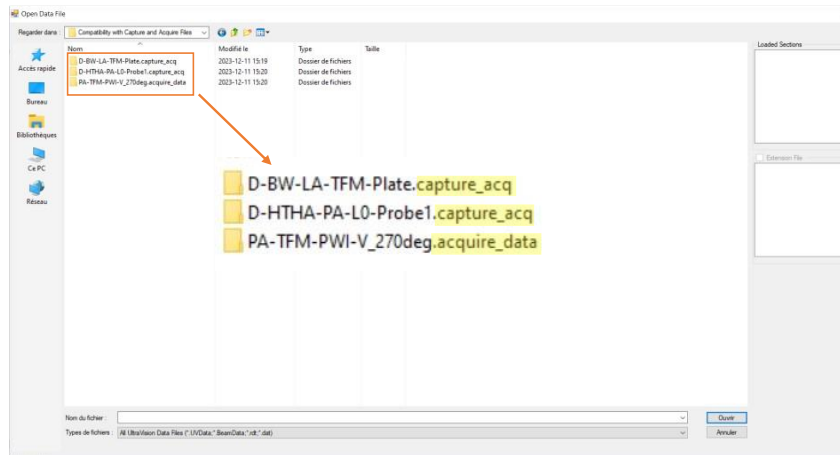

Figure 2 Selecting Capture or Acquire data files to open in UltraVision
- Select the capture\_acq or acquire\_data file of interest from the list and press the Open button. (see Figure 2)